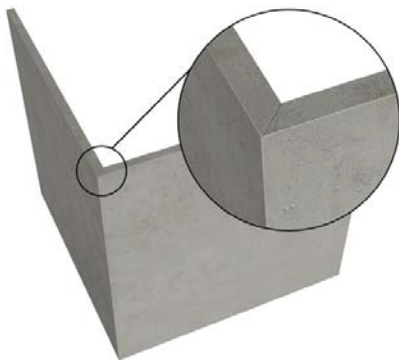

Figure 10
- Using a grinder with a fine diamond blade, or circular saw with a 4 toothed fiber cement blade, square cut your panel to the correct measurement. Next, cut the edge of the side panel at slightly more than a 45° angle, staying $\frac{1}{32}$ " below the edge (Figure 10). Refer to appendix A for guidelines to make mitered edge cuts.